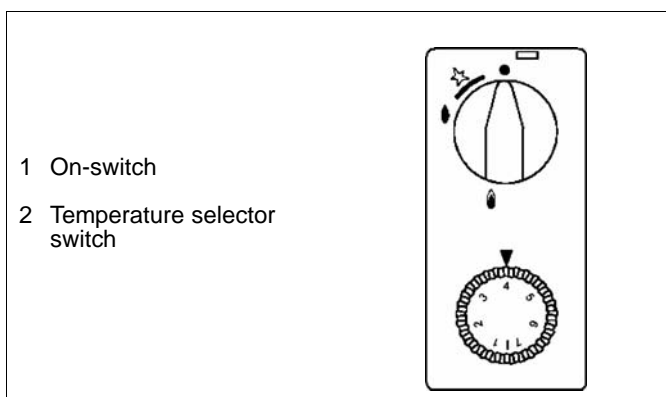

Fig. 13 Operating panel
- ⇒ Turn the On/Off switch (1 / Fig. 13) towards Ignition as far as the stop.
Ignition gas flows and, depending on the temperature selection switch (2 / Fig. 13), also the main gas.
The baking oven temperature can be adjusted by turning the temperature selection switch (2 / Fig. 13).
- ⇒ Turn the On/Off switch (1 / Fig. 13) to the right as far as the stop. In this position only the ignition gas burns.
Turning the temperature selection switch (2 / Fig. 13) anti-clockwise causes the main burner to ignite automatically. The oven temperature can be set steplessly and is regulated thermostatically. The rotary switch has a scale from 1 to 7. In the steady state the various scale numbers correspond approximately to the following oven temperatures:
- ⇒ The oven should be heated at 410°F (210°C) for 1 hour with the door closed (temperature selection switch (2 / Fig. 13) at position 4).